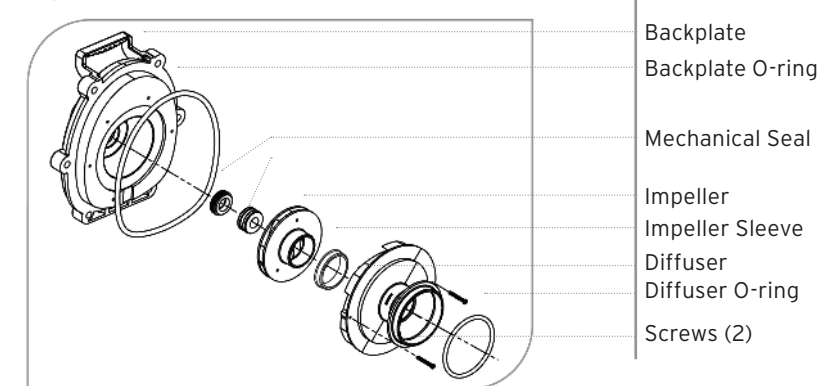

Figure 7. Backplate, Impeller, Diffuser, and Mechanical Seal Exploded View
**NOTE: Refer to Figure 7 for an illustration of the location of the mechanical seal and impeller.**